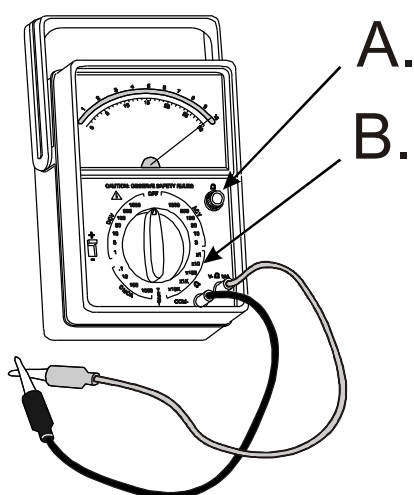

Figure 24 - Ohmmeter adjustment.
4. Connect the alligator clips to each other (Fig. 24). The measurement needle should move towards the far right of the measurement scale.